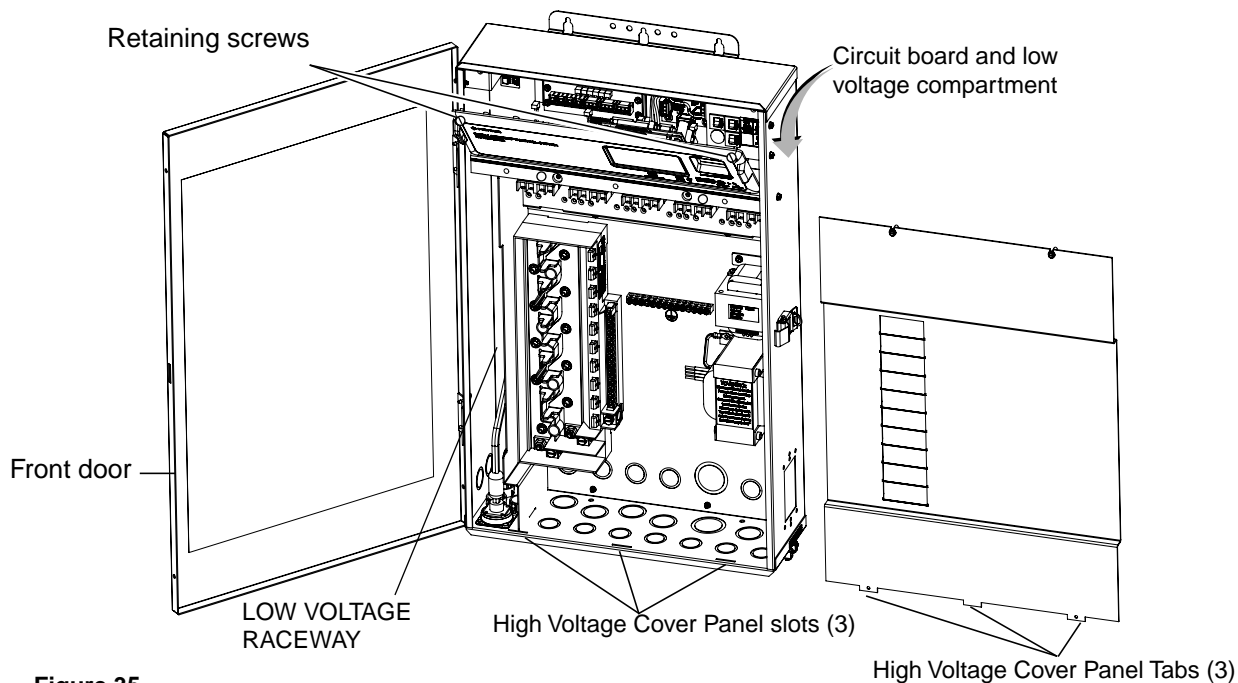

Figure 35
2. Unlatch the front door latch and open the front door. Remove the two retaining screws from the High Voltage Cover Panel and remove the panel. See **Figure 35**.
9. Secure the panel with the two (2) retaining screws. Close the front door and secure with the latch. See Figure 35 on page 34.